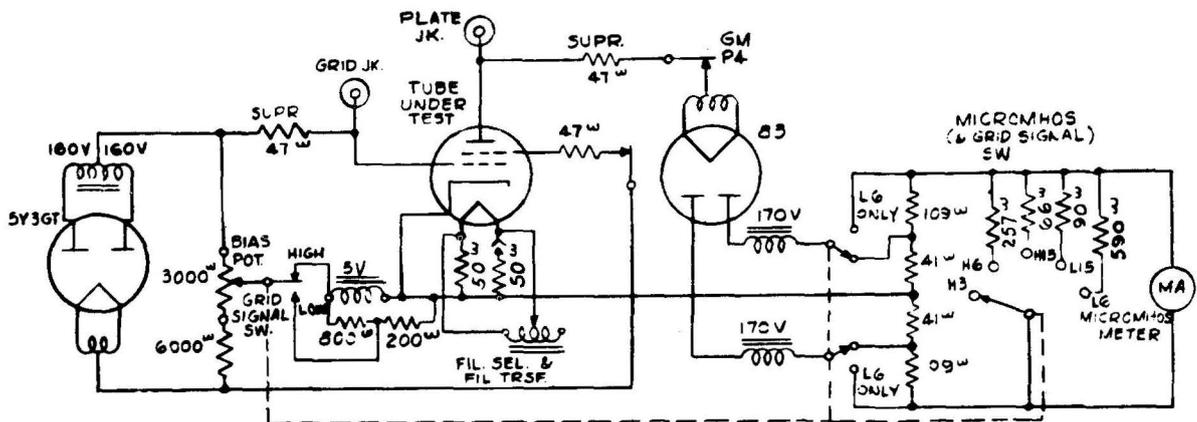

Fig. 2 - Basic Transconductance Test Circuit (English Potentiometer Test Circuit Not Shown)
2.18 When measuring indicated transconductance or testing cathode (filament) activity, the set is arranged to provide the circuit shown in Fig. 2. The 5Y3GT type full-wave rectifier tube supplies unfiltered (pulsating) d-c potentials to the control and screen grids (if any) of the tube under test. The unfiltered plate potential is derived from a separate rectifier employing an 83-type tube with balanced transformer secondaries supplying a-c potentials of 170 volts to each plate of the rectifier tube. The 83-type full-wave rectifier tube is of the mercury vapor type and is used to ensure a minimum internal voltage drop, with better regulation, regardless of load current. The MICROMHOS meter is connected across the potentiometer or resistances in the rectifier circuit as shown. Since the currents in the two resistances are equal, the arrangement is balanced and no potential is impressed on the meter if no a-c signal is impressed on the control grid.